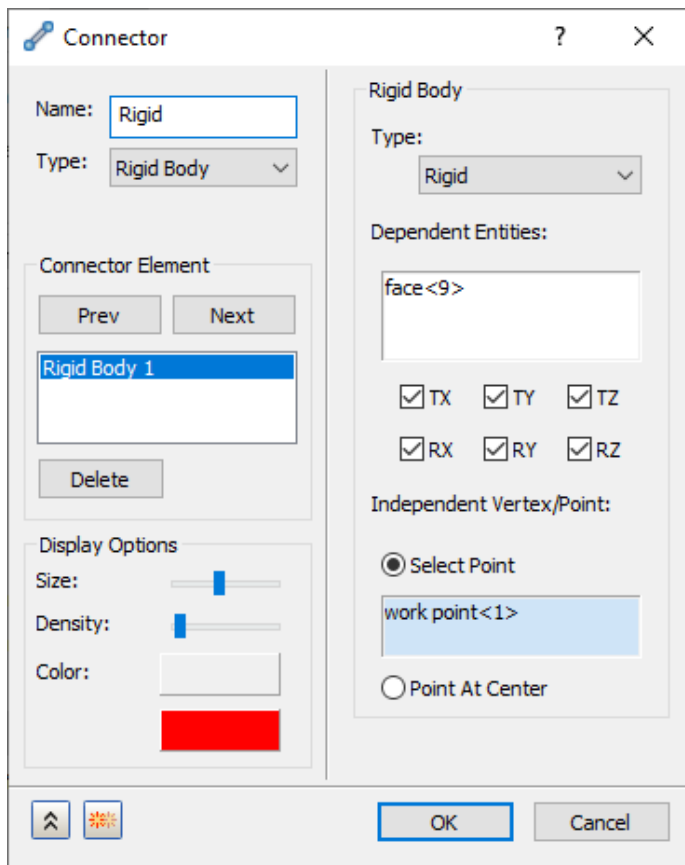

Figure 26 - Rigid Connector type Rigid.
- The motor is much stiffer than the model; therefore, the motor is considered rigid. Add a “Connectors > Rigid body” and set the Type to “Rigid”. See Figure 26. The nodes where the connector is attached to the model will remain in a rigid plane.